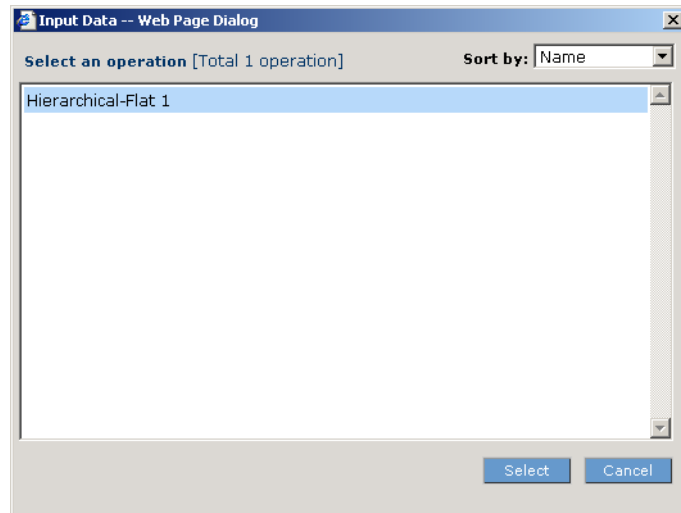

Figure 18-8. Select the appropriate operation whose source data you want to test in this Transformation map.
- ② An **Input Data** dialog appears, listing all the operations that currently use this transformation. Select the appropriate operation in the list, then click the **Select** button to continue (see Figure 18-8 below).